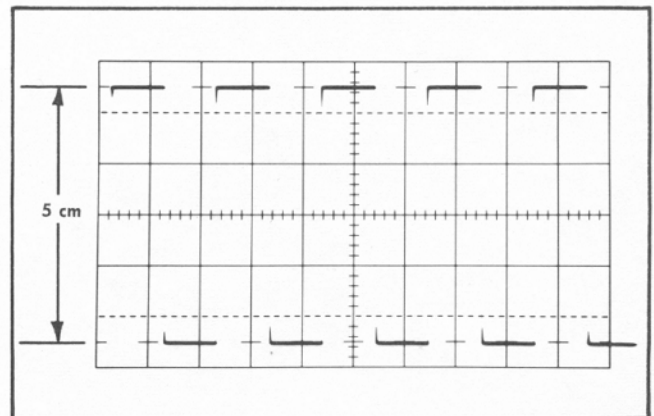
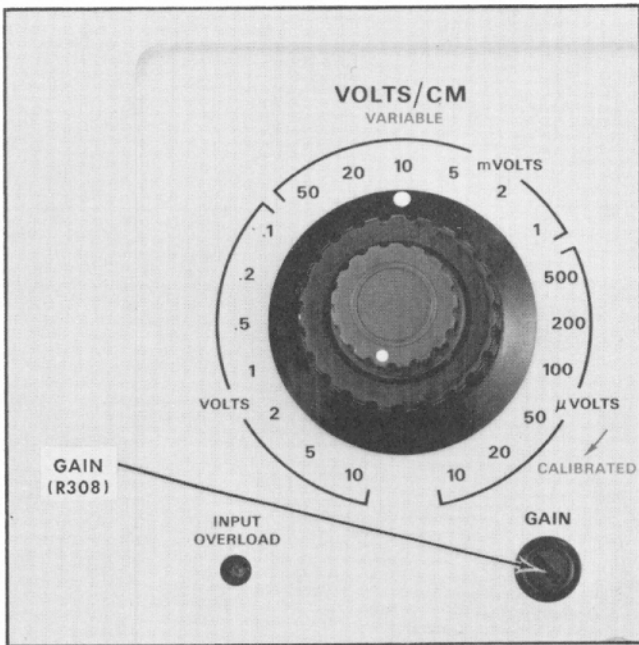

Fig. 6-9. Typical crt display showing correct gain adjustment. Vertical deflection factor: 10 mV/cm.
Fig. 6-10. Location of step 4 adjustment.
d. Check the display for a vertical amplitude of exactly 5 cm (see Fig. 6-9). If it is not, adjust the GAIN control (R308), see Fig. 6-10) to obtain the proper amplitude display.